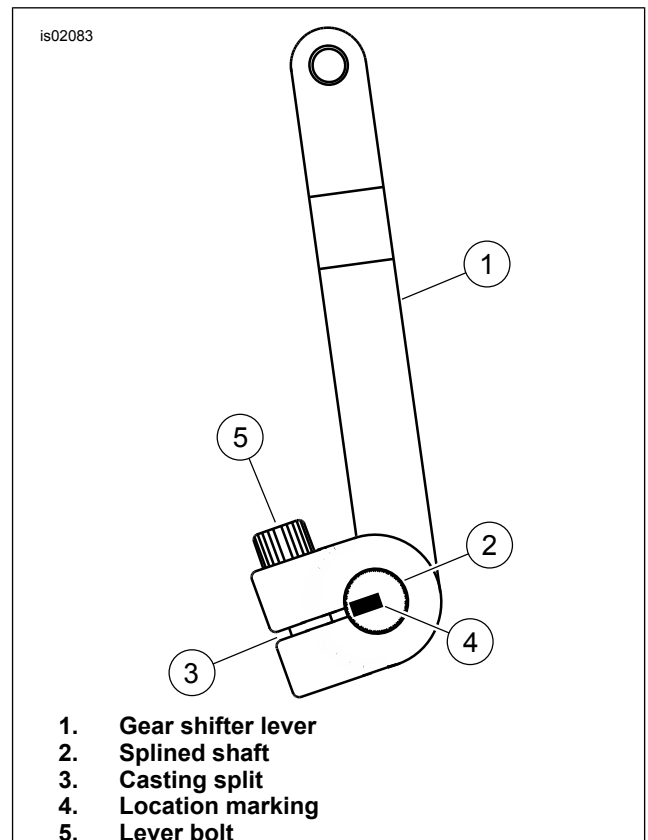

Figure 1. Transmission Shifter Lever Orientation
8. See Figure 1. Draw a mark (4) on the end of the splined shaft (2) aligned with the casting split (3). This will allow the **new** transmission shifter lever to be installed in the same orientation as the old lever.